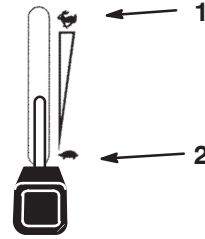

Figure 12
1. Push the PTO to the off position (Fig. 12).
2. Move the throttle lever midway between the slow and fast positions (Fig. 12).